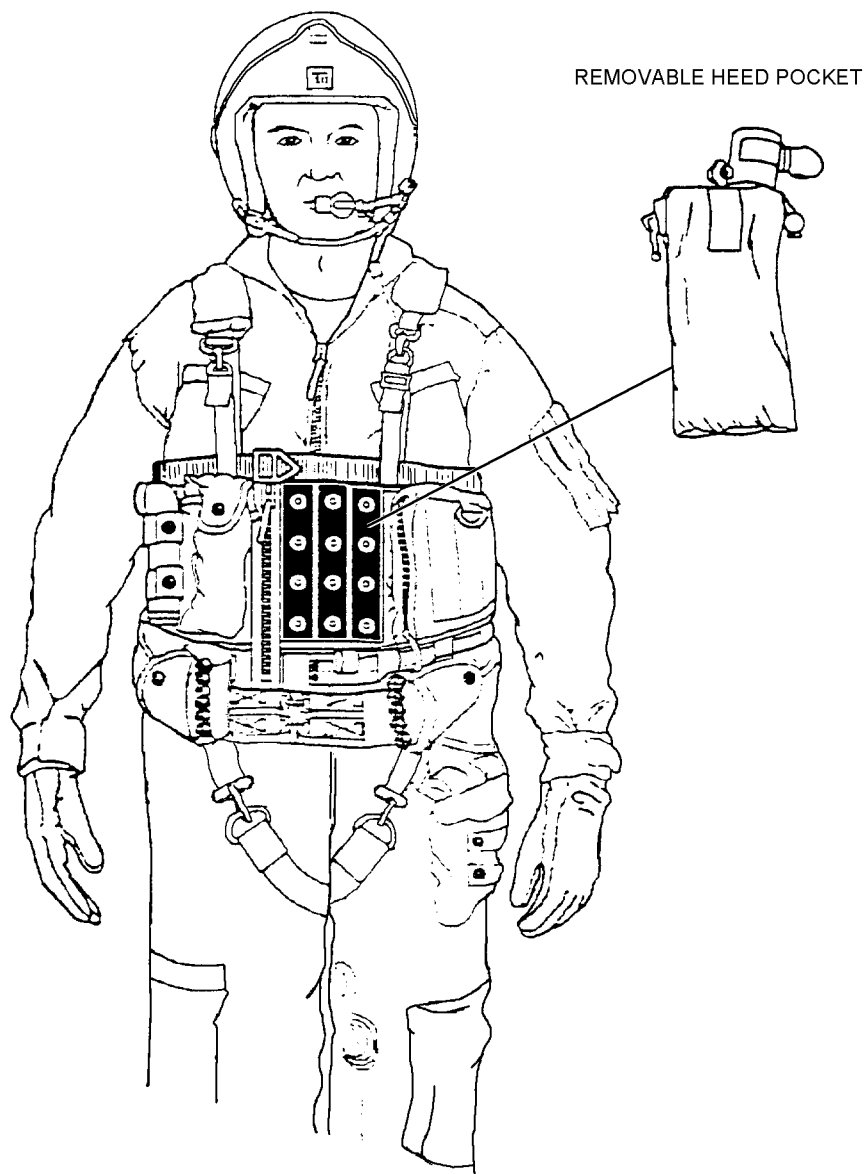

Figure 9-1. CMU-23A/P Survival Vest (Normal Configuration)
9-2. The CMU-23A/P Survival Vest is an SV-2B Survival Vest or CMU-23/P Survival Vest which has been modified in accordance with ACC 616 (as amended) for compatibility with the man-mounted pusher fan of the A/P23P-14A(V) CBR Protective Assembly (Upgrade) and the A/P22P-14(V)1 Respirator Assembly. Survival vests modified by ACC 616, and redesignated CMU-23A/P are dual purpose vests. For routine missions where there is no potential for CBR exposure, the vest can be configured like a non-CBR configuration in SV-2B Survival Vest (figure 9-1). With its interchangeable pocket configuration, however, the CMU-23A/P vest can be quickly reconfigured for missions requiring CBR protection.